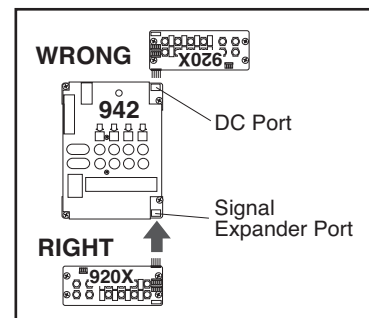

Figure 20. Audio signal expander connection
1. Mount the main modules first, then plug in and mount signal, and DC, expander modules (Figure 20 and 21). Use the screws provided.
2. Connect an audio signal expander (if any) such as 920X or 949X to its respective main switching module as shown in Figure 20. It is critical that the signal expanders be connected to the header port on the main module labeled "EXPANSION." DO NOT plug an audio signal expander module to the header port labeled "DC EXPANSION."